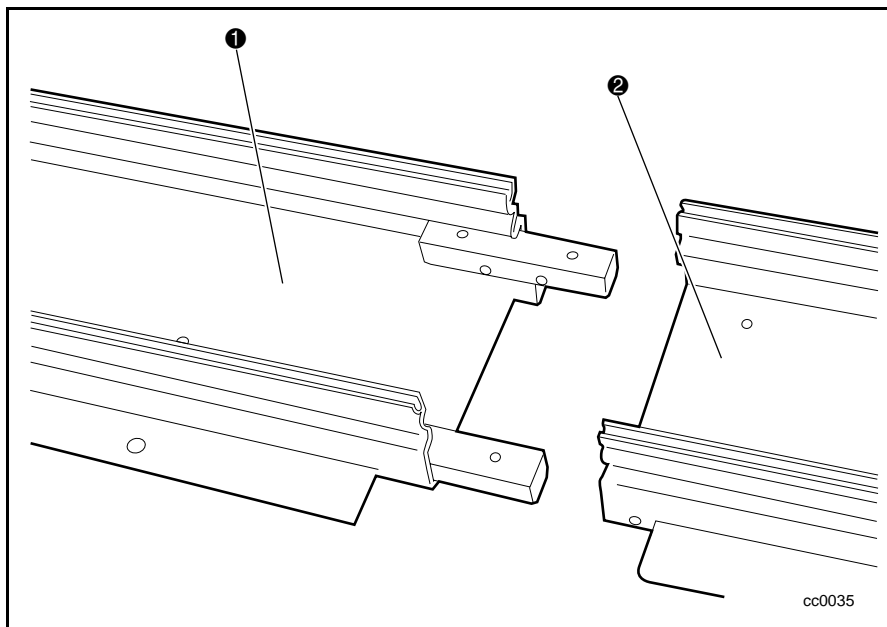

Figure C-16. Attaching PTM extrusions
6. Insert the tie bars (now mounted on the main PTM extrusion (1)) into the extension (2), aligning the two PTM extrusions so that the channel patterns match (see Figure C-16).